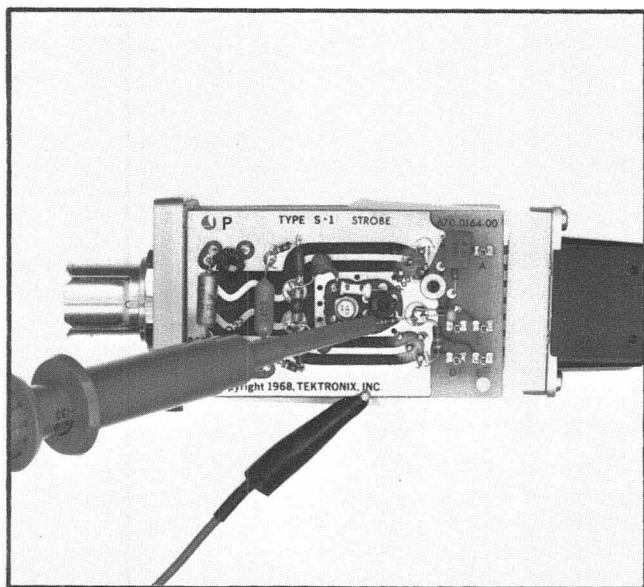
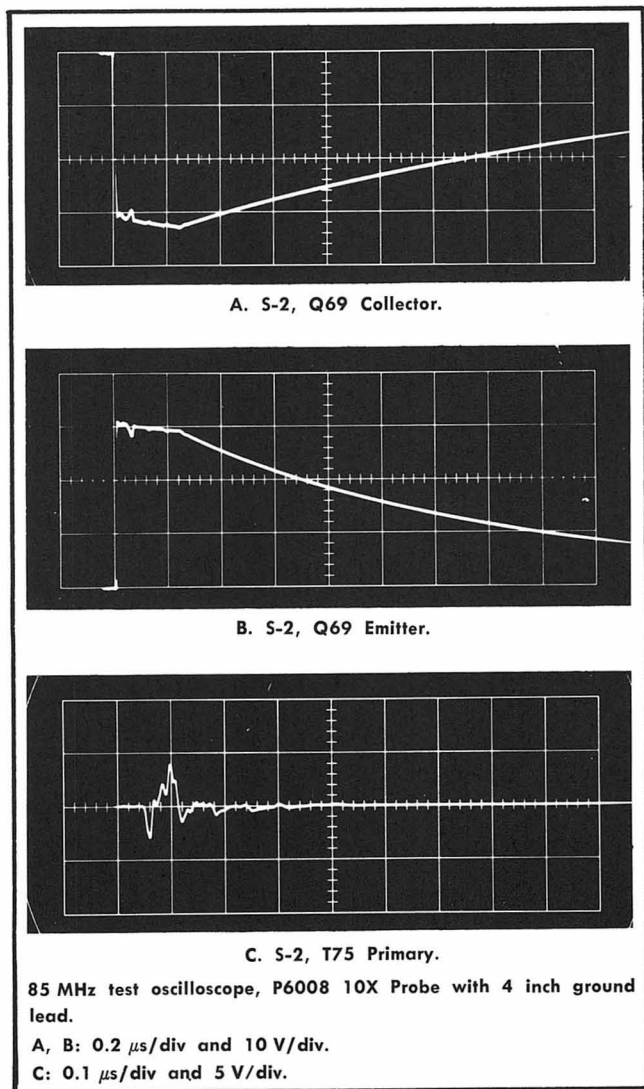

Fig. 5-2. Test oscilloscope 10 $\times$  probe connected to Q69 emitter.
Fig. 5-3. Checking Avalanche drive and output.
d. Use the test oscilloscope with 10X Probe, to check for proper operation of Q69. The probe connections are shown in Fig. 5-2, and the general nature of the signals is shown in Fig. 5-3. Fig. 5-3A and B show the general amplitude for Q69 collector and emitter signals in the Sampling Head. Fig. 5-3C shows the typical drive signals at T75 primary (square terminal E) while the head is on the extender cable.
If T75 is receiving drive, but there is no signal out of Q69, change Q69 (changing Q69 may significantly increase the displayed noise, so it is best to have several transistors of this type on hand and grade them for low noise using step 11). If all signals of Fig. 5-3 are present, check the Preamplifier output (square terminal D). If there is no signal at the Preamplifier output, check the sampling diodes and Q31 in the following manner.